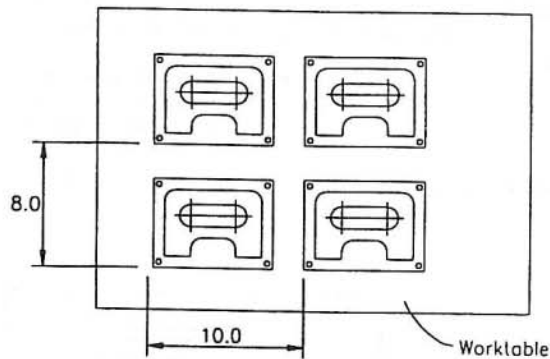

Figure 9.16
30. Use the rectangular array function to generate the toolpaths for cutting four identical parts in one part program. This allows four parts to be machined in one machine setup. The workholding layout of these four parts is shown in Figure 9.16. The part geometry file is *exer-6* that is identical to the file used in problem 29. Use the instructions given in problem 29 to generate the original toolpaths.